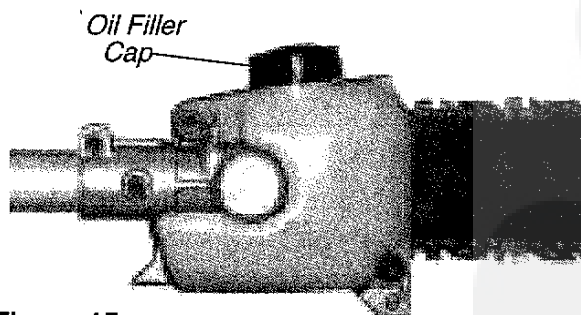

Figure 15
1. Place Shitboom Anachment SBA-P230 on a clean, flat surface with the oil filler cap facing up. See Figure 15. Wipe off any debris from the oil cap and from around the oil filler neck.